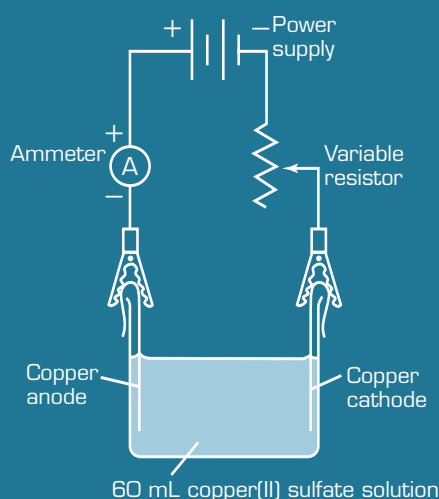

figure ec. 15
- Use figure ec.15 to construct an electroplating cell and circuit for electroplating copper metal. Before inserting the copper strip which is to act as the cathode in the cell, clean it using a scourer and measure and record its mass.
- concentration of the copper(II) sulfate solution